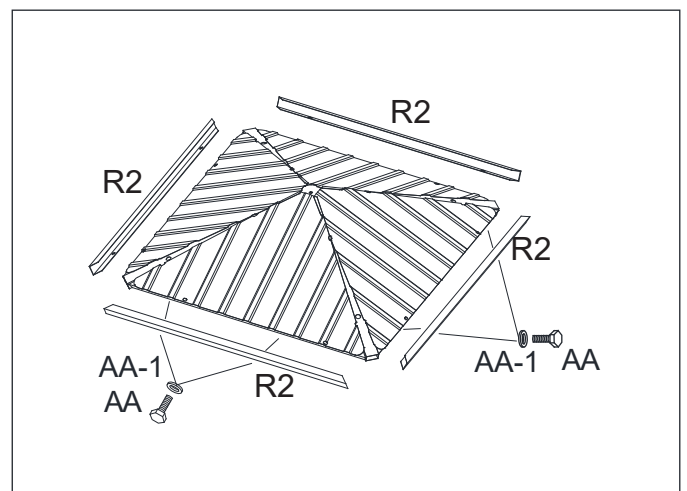

Figure 11-2
11.2: Repeat for opposite sides. Tighten all Bolts. See Figure 11-2.